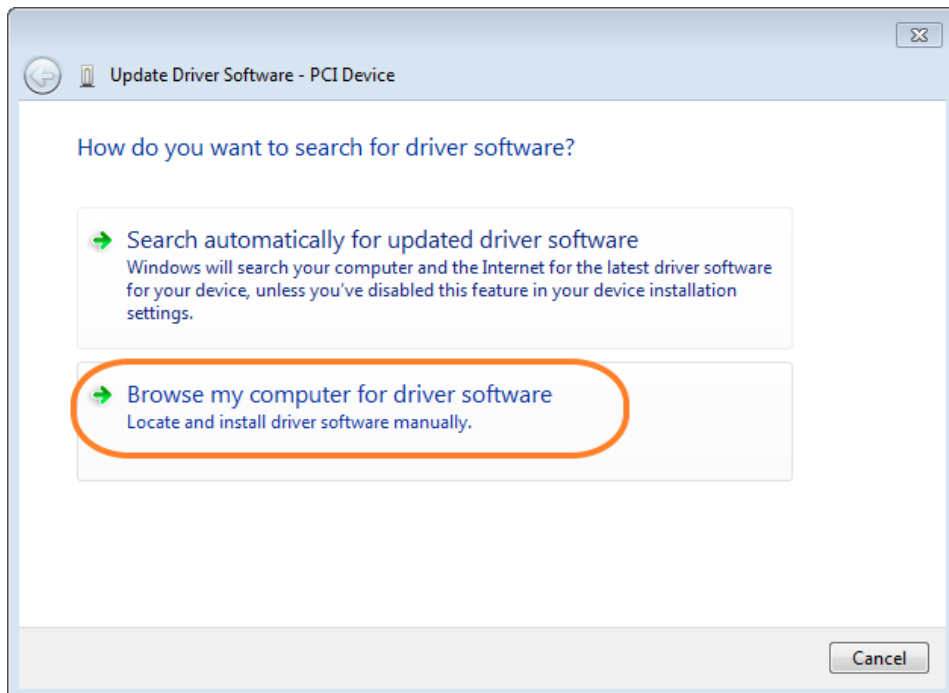

Figure 7-4 Dialog of Browse my computer for driver software
6. In the **How do you want to search for driver software** dialog, click **Browse my computer for the driver software** item, as shown in Figure 7-4.